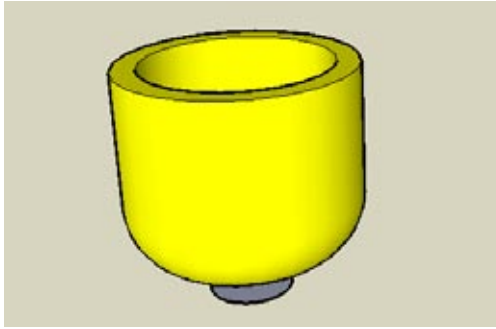

Figure 2-57
8. Select the circle (you can select either the face or edge), activate Follow Me, and click the half-section face. The face is extruded around the circle to make the cup (Figure 2-57).